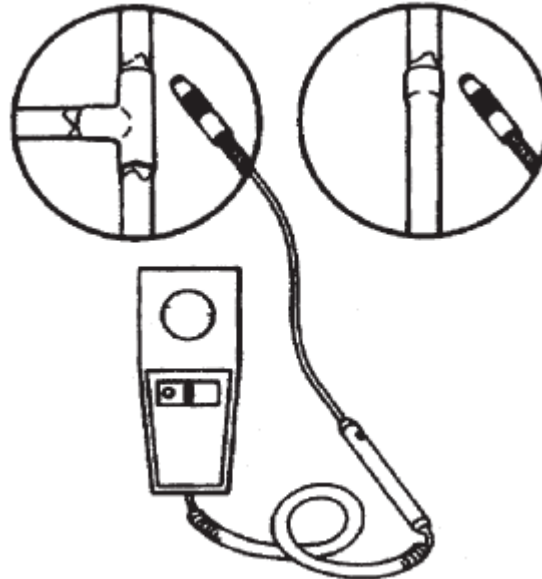

Fig. 13 Leak detector
- leak detector (ref. Fig. 13).
- 4) Verify eventual leaks with a leak detector (ref. Fig. 13) by checking all the joints and connections. If the leaks can't be found but the system lost its charge, pass to the following action.